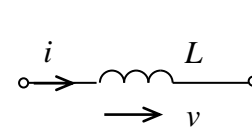

Fig.3.3
Inductance L (H) is correspondingly the main parameter for the ideal *inductive element* (fig.3.3). The differential form of Ohm's law is thus applied accordingly: